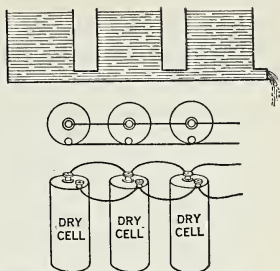

Fig. 284. Cells connected in parallel compared to tanks of water. The pressure or voltage is the same as of one cell, but the current flows for a longer time.
**Joining cells in parallel for longer life.** If you want to make dry cells last longer, it is always a good plan to join the positive (carbon) terminals to one wire and the negative (zinc) terminals to the other wire. Then join these wires to the device. Cells so arranged are joined *in parallel*. If you join three cells in this manner, the combined voltage of all three cells will be no more than for one cell, but the cells will last longer (Fig. 284).